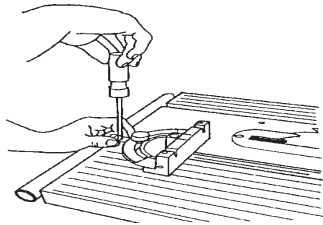

Figure C-52
- b. Use a medium screwdriver, loosen the screw which holds the indicator plate, and set its "0" to the miter gauge's "90". Tighten the screw. See Figure C-52.